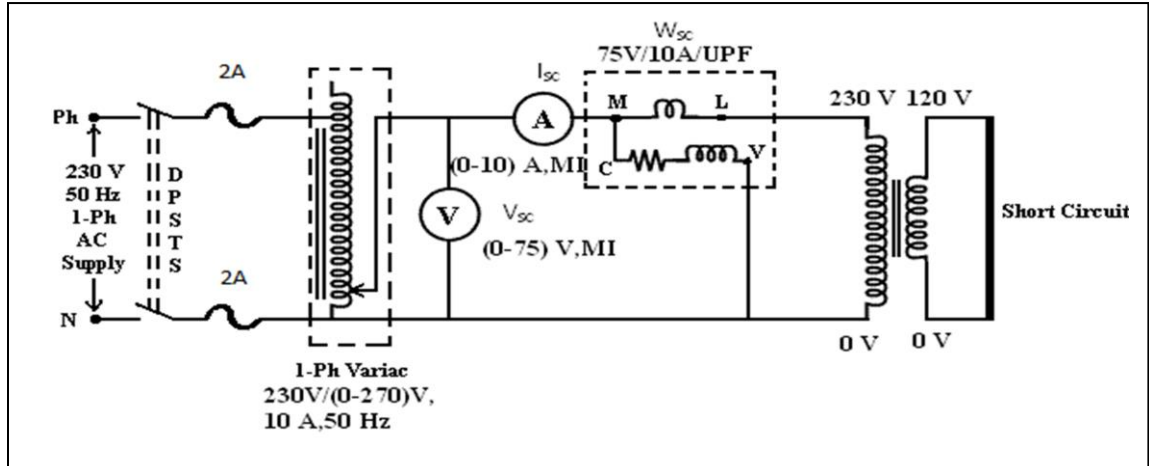

Fig 3.2: Circuit diagram for short circuit test
- Connect the circuit as per fig 3.2.